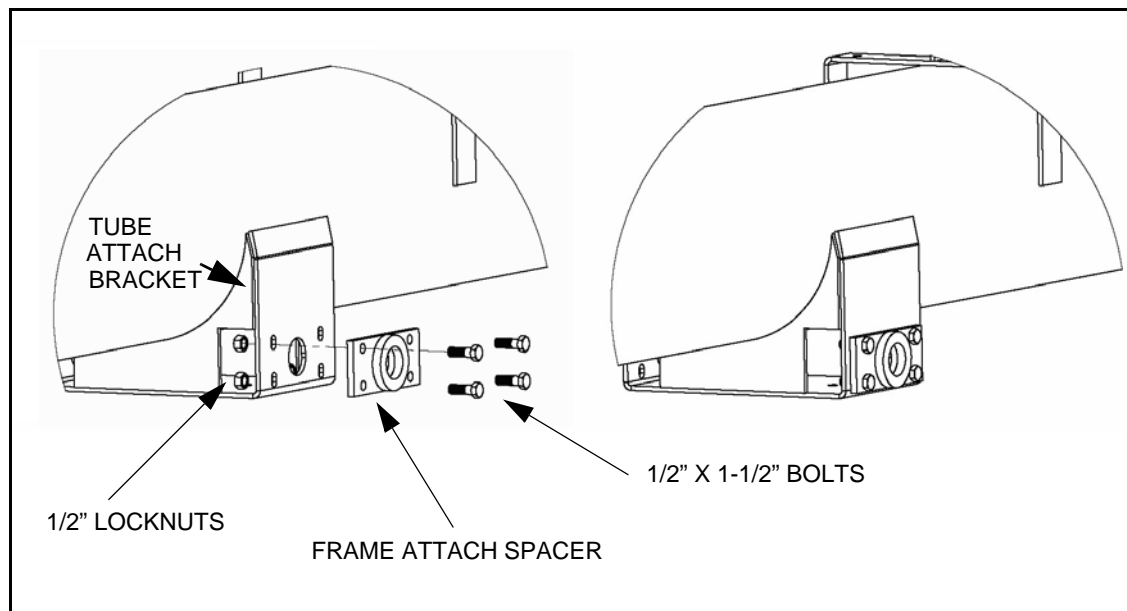

Figure 3.23 Installing Frame Attach Spacers on Tube Attach Brackets
1. Ensure that the four frame attach spacers are loosely installed on the upper and lower tube attach brackets (see Figure 3.23).